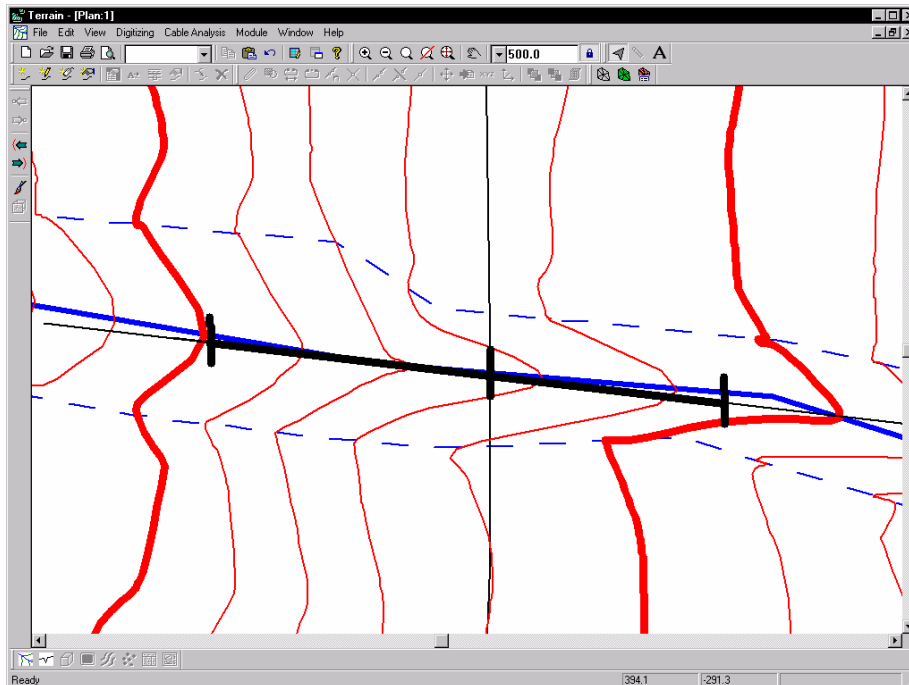

Figure 9.16: Plan Window with Culvert Position
37. Activate the Plan Window by pressing the *Plan*  icon . Your screen should be similar to Figure 9.16.